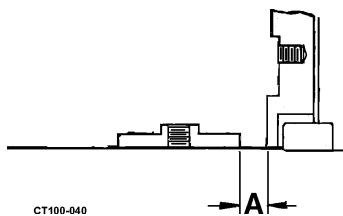

Figure 33 - Drive Collar to Backplate Dimension
3. Scribe a mark on the shaft at location “A” behind the backplate. See Figure 33.
6. Locate the drive collar in relation to the scribe mark and secure it to the shaft with the setscrews. See Figure 33.
Table 6: Callout dimensions for Figure 33